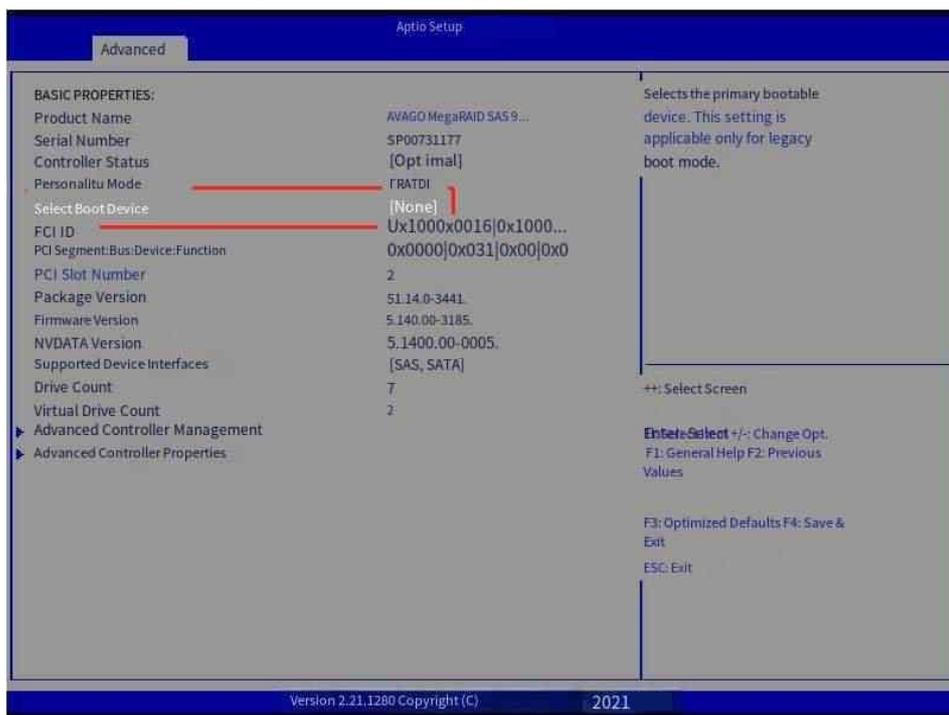

Figure 7-53 Controller Management
Step 2: Press Enter to go to Controller Management and Select Select Boot Device. The default boot option is None(Figure 7-53).